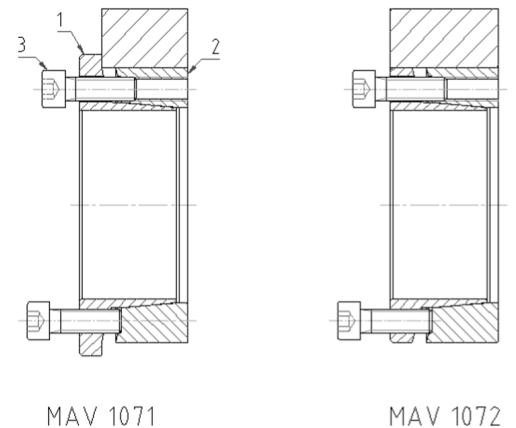

Fig. 1
2. Loosen all screws by minimum 2 turns and transfer at least 2 screws to push-off threads in the inner ring item [1]. Lightly tighten these screws, in order to disengage tapers for easy installation of locking assembly (fig.1). For series MAV 1072, it is recommended to locate the unit completely (whole length) inside of hub bore.